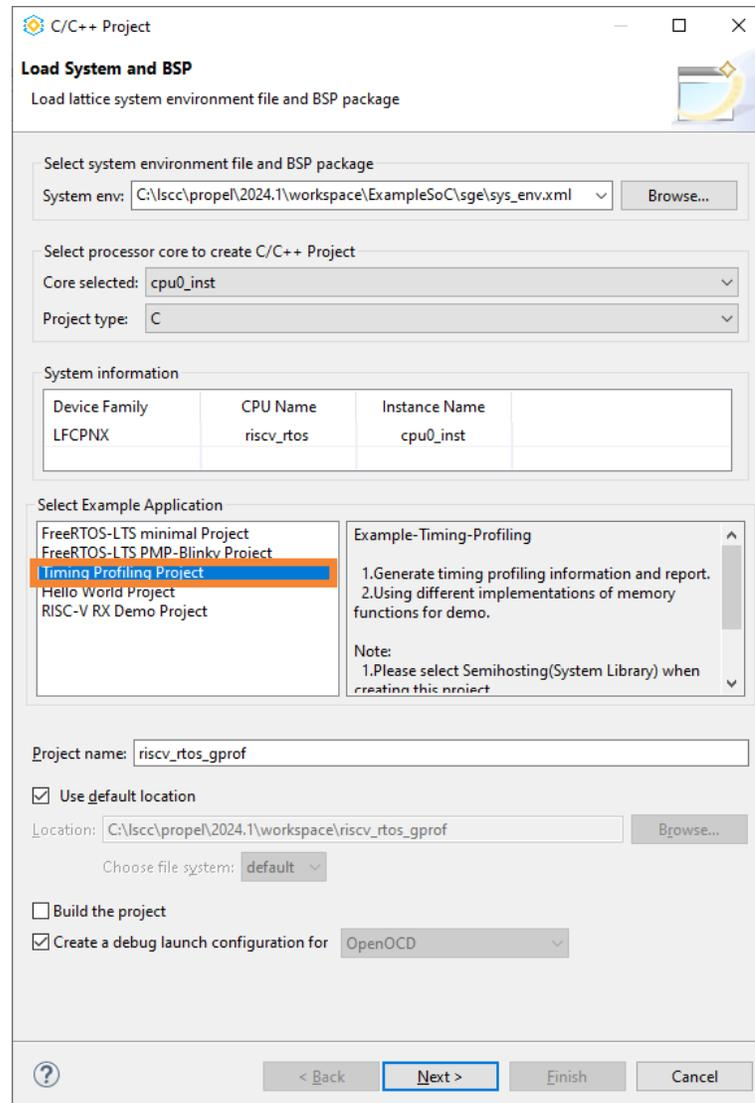

Figure 7.1. Create Timing Profiling Project
1. The Timing Profiling C project can be created through the **Load System and BSP** page (Figure 7.1).